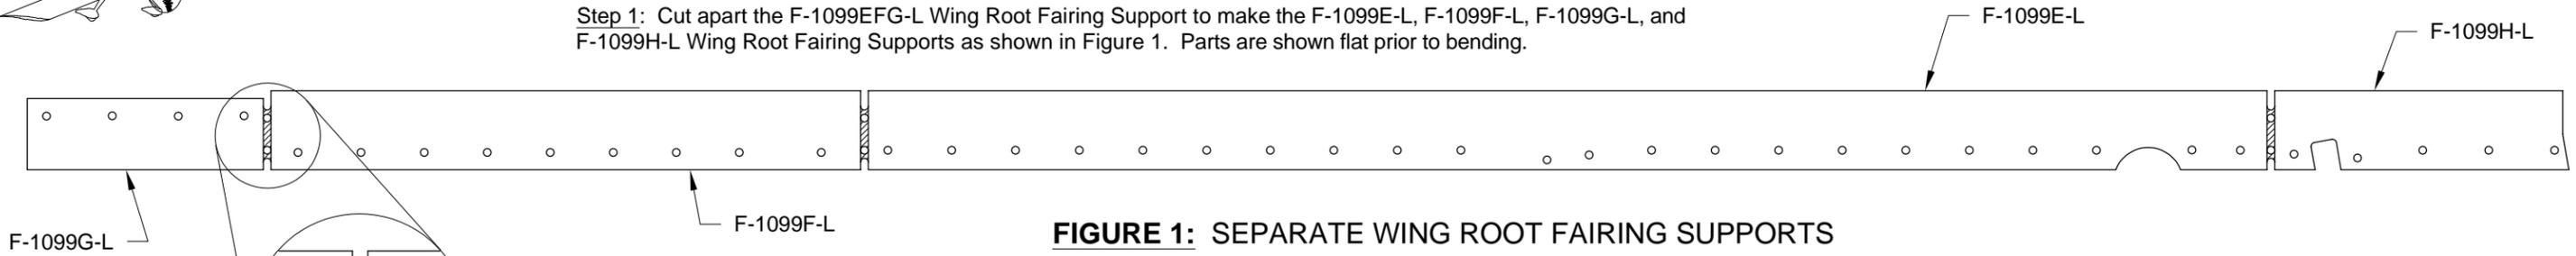

FIGURE 1: SEPARATE WING ROOT FAIRING SUPPORTS
Step 1: Cut apart the F-1099EFG-L Wing Root Fairing Support to make the F-1099E-L, F-1099F-L, F-1099G-L, and F-1099H-L Wing Root Fairing Supports as shown in Figure 1. Parts are shown flat prior to bending.